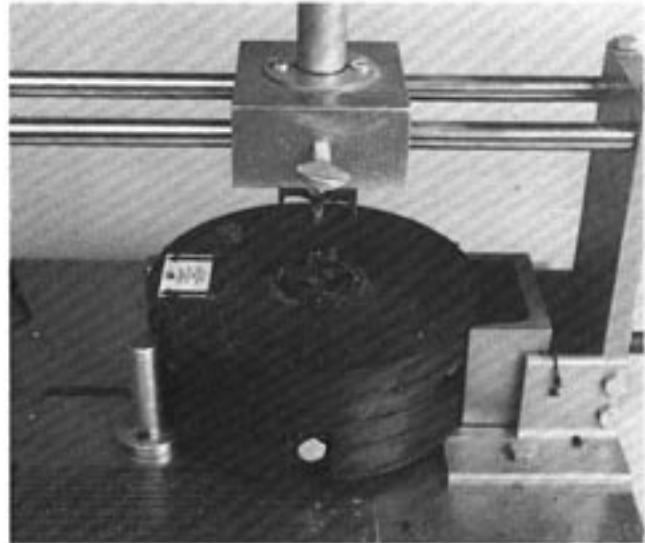
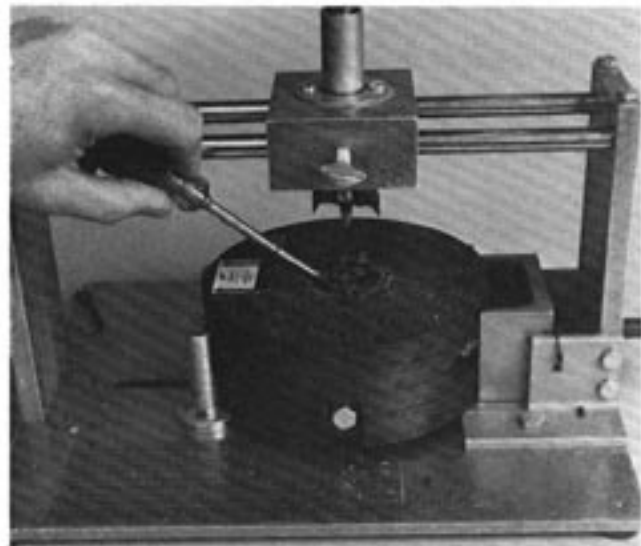

FIGURE 11 - CUTTING THROUGH PLASTIC SHELL
FIGURE 12 - REMOVING PLASTIC DISC
5.08 Cut through the black plastic of End Plate, until foam is just visible in ring (Figure 11). Use screwdriver to pop out plastic disc (not necessary for A, B, C and D blades). (Figure 12) Continue cutting through foam and lower black plastic until stop collar on shaft bottoms on bearing block. Never bring blade back up through the End Plate while it is turning.